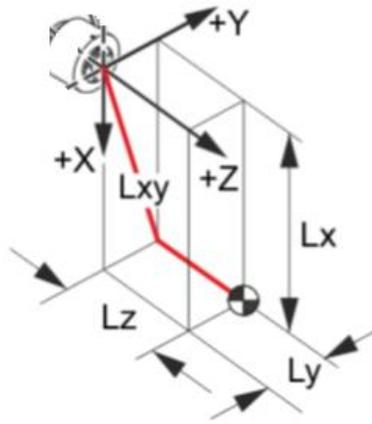

Fig. 2.40 Payload Position Reference
3. The setting of activated payload is shown in Fig. 2.40, with a "√" mark in front of the activated load.